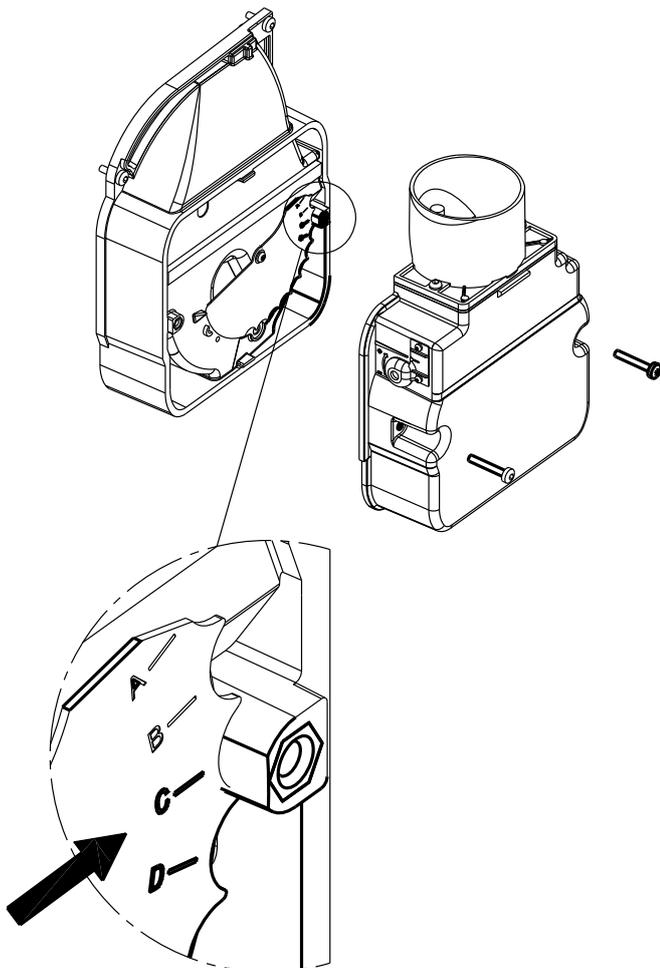

Figure 10-7: Air adjuster disc
Refer to Figure 10-7.
4. The air adjuster disc is mounted on the fan housing. Refer to Figure 10.7.